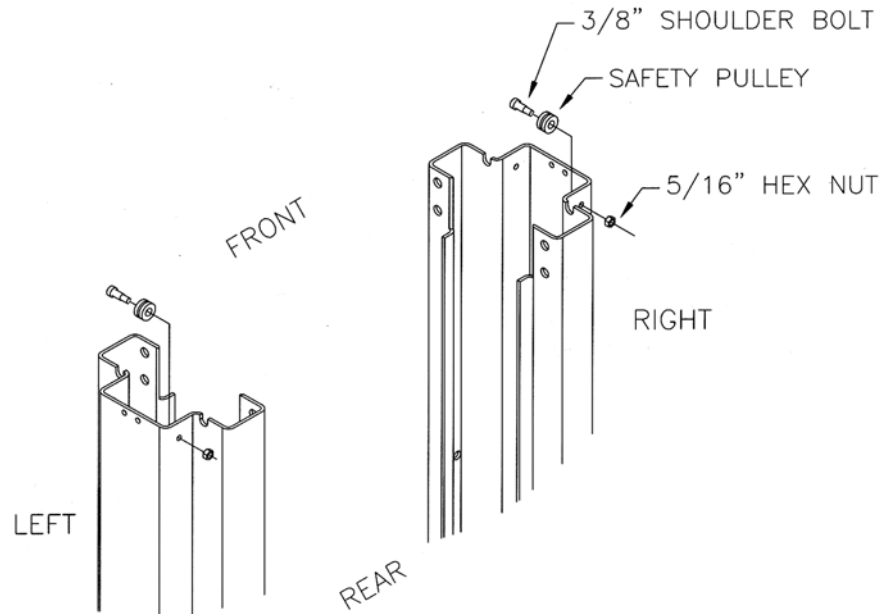

Figure 9 - Safety Release Pulley Installation
2. **Figure 9.** Attach the safety pulley to the tower using the 3/8" x 5/8" LG. shoulder bolt, 5/16" lockwasher and 5/16" hex nut.